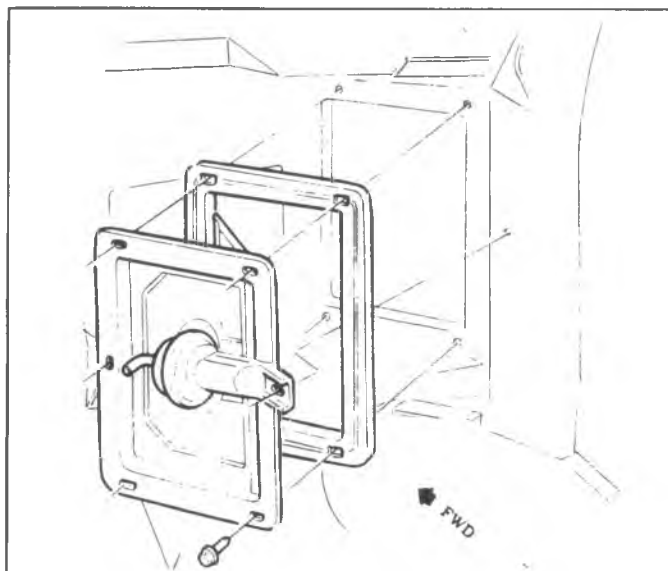

Fig. 1B-44--Recirculating Air Door Vacuum Actuator
7. Remove recirculating air door vacuum actuator. Refer to Fig. 1B-44.